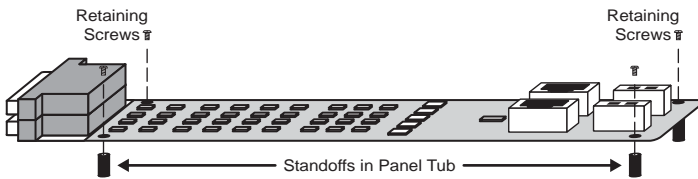

Figure 3 Retaining Screw Insertion
7. Insert the **4 Retaining Screws** through the holes in the **Tally Board** and into the standoffs (**Figure 3**).